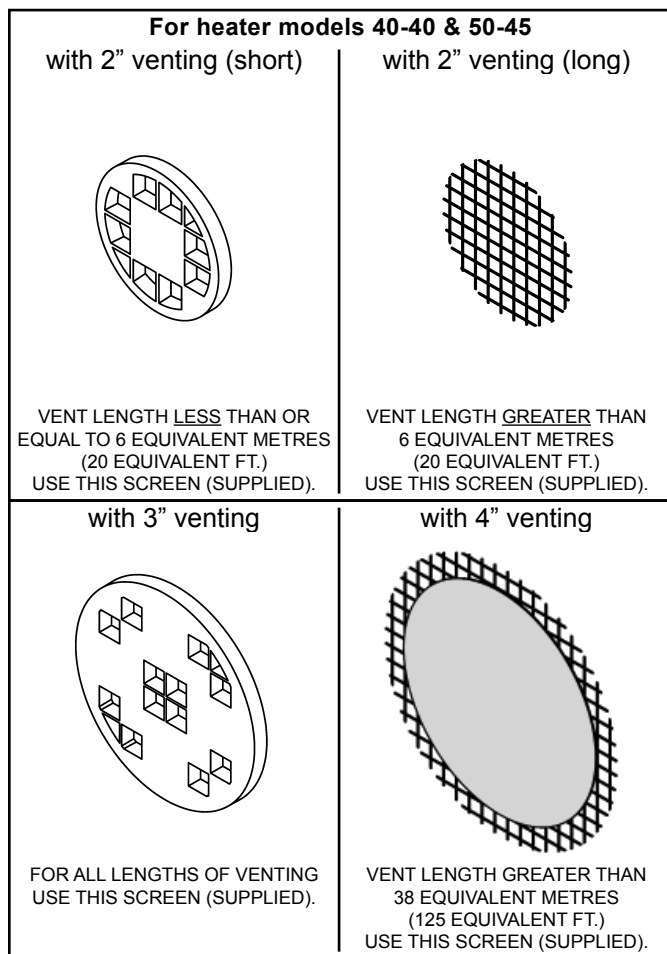
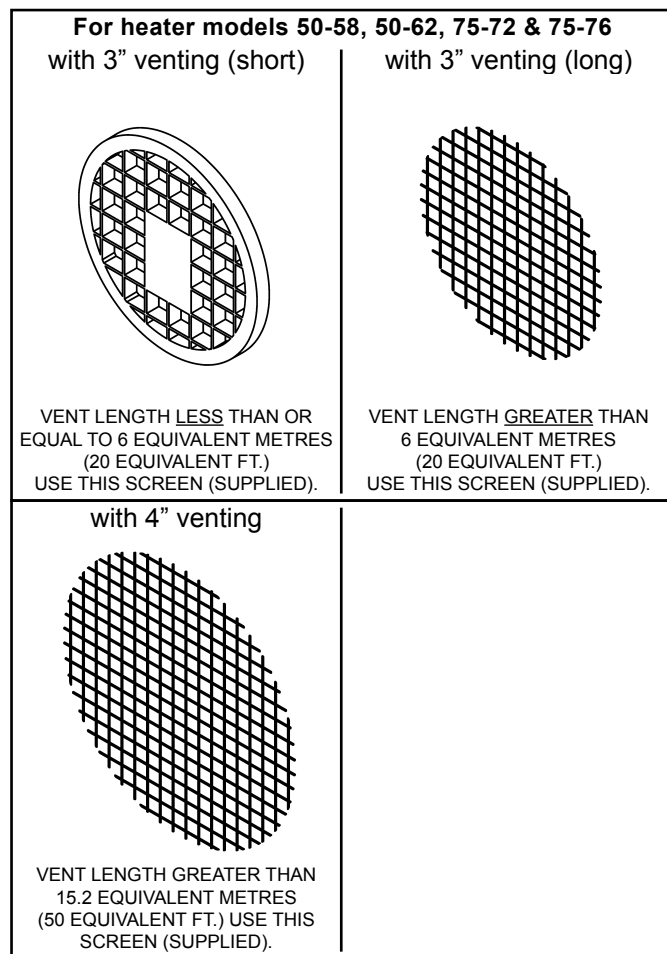

Figure 27
Figure 28
Use the Vent Termination Screen as shown in Figure 27 & Figure 28. Install the Vent Termination Screen in the Termination Elbow on both the air intake pipe and the exhaust pipe.
* see Figure 27 and Figure 28
Installed in the vent termination elbow, the vent screen is required to keep foreign objects, rodents and small birds from entering the venting system. These screens have been sized to ensure maximum energy efficiency of the vent system based on the “equivalent length” of the vent piping. **CHOOSE ONLY the ONE SCREEN THAT MATCHES YOUR VENTING CONFIGURATION** (see Figure 27 & Figure 28). How to determine the “equivalent length” is shown in Table 3.
- Supplied with this heater are several vent termination screens (see Figure 27 & Figure 28).
- Plastic screens must be secured with (2) drops of silicone sealant. This will allow for easy removal for inspection and cleaning.